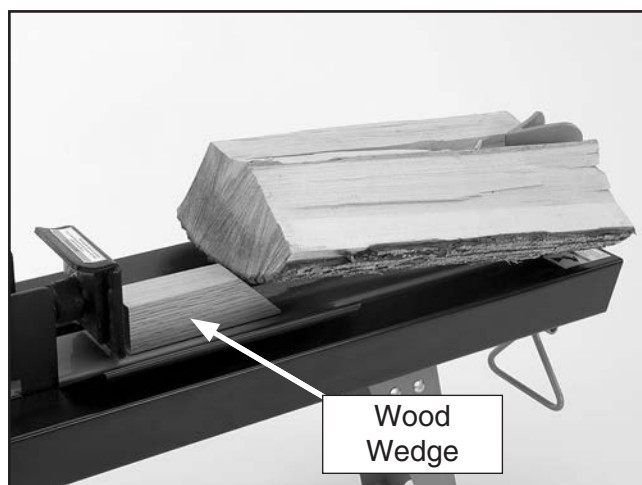

Figure 8. Using a wedge to clear a jam.
1. With the ram fully back, set a wooden wedge flat side down on the bed with the narrow end pointing under the log as shown in **Figure 8**.